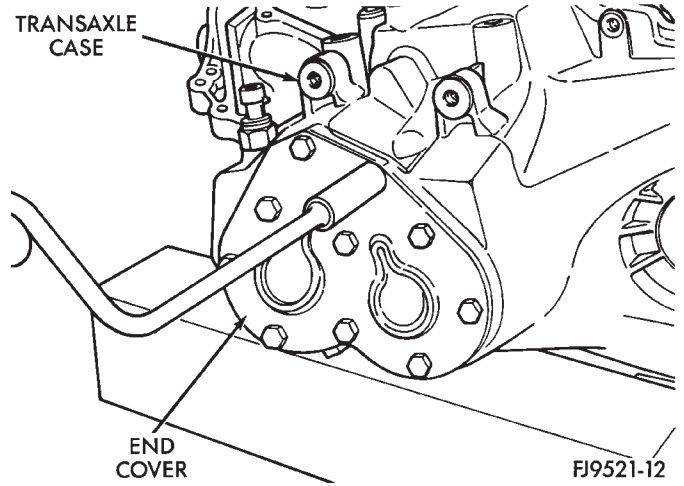
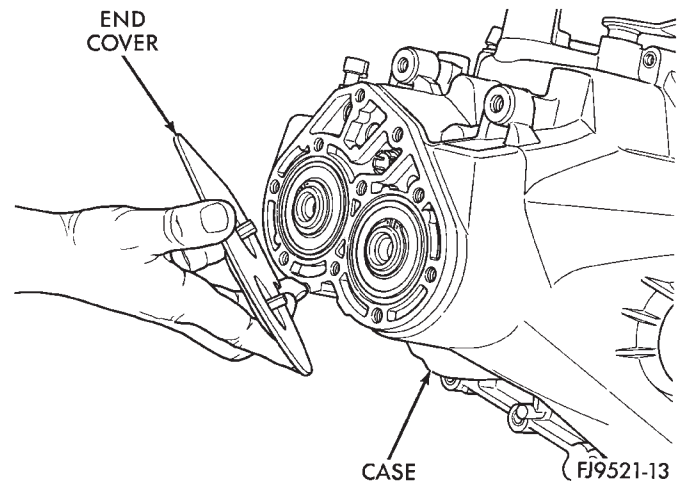

Fig. 50 Transaxle Cover Removal
Fig. 51 End Cover
(11) Remove transaxle end cover (Fig. 50) (Fig. 51).